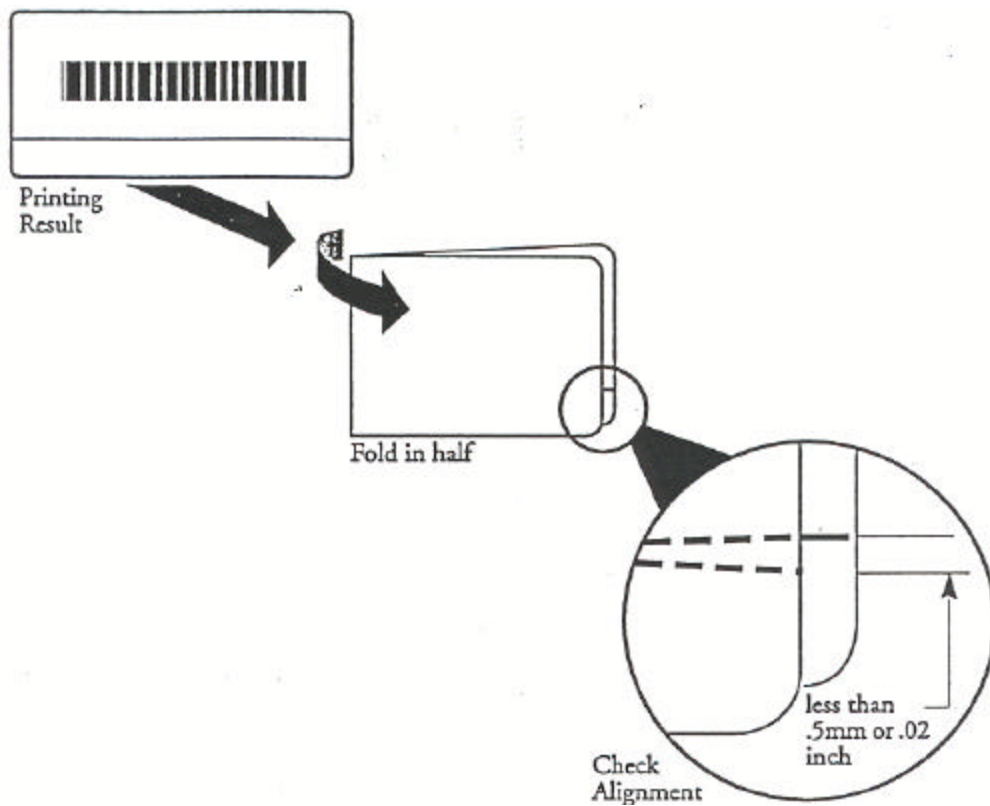

Figure 11. Incline Checking of the Thermal Head
16. When the test printing on both sides is acceptable, you need to check for incline on the printing result. Fold the media (label) vertically. If the difference of printing between the right side and the left side of the label is more than .02 in./0.5 mm, you will need to adjust the position of Bracket EA accordingly. See Figure 11.